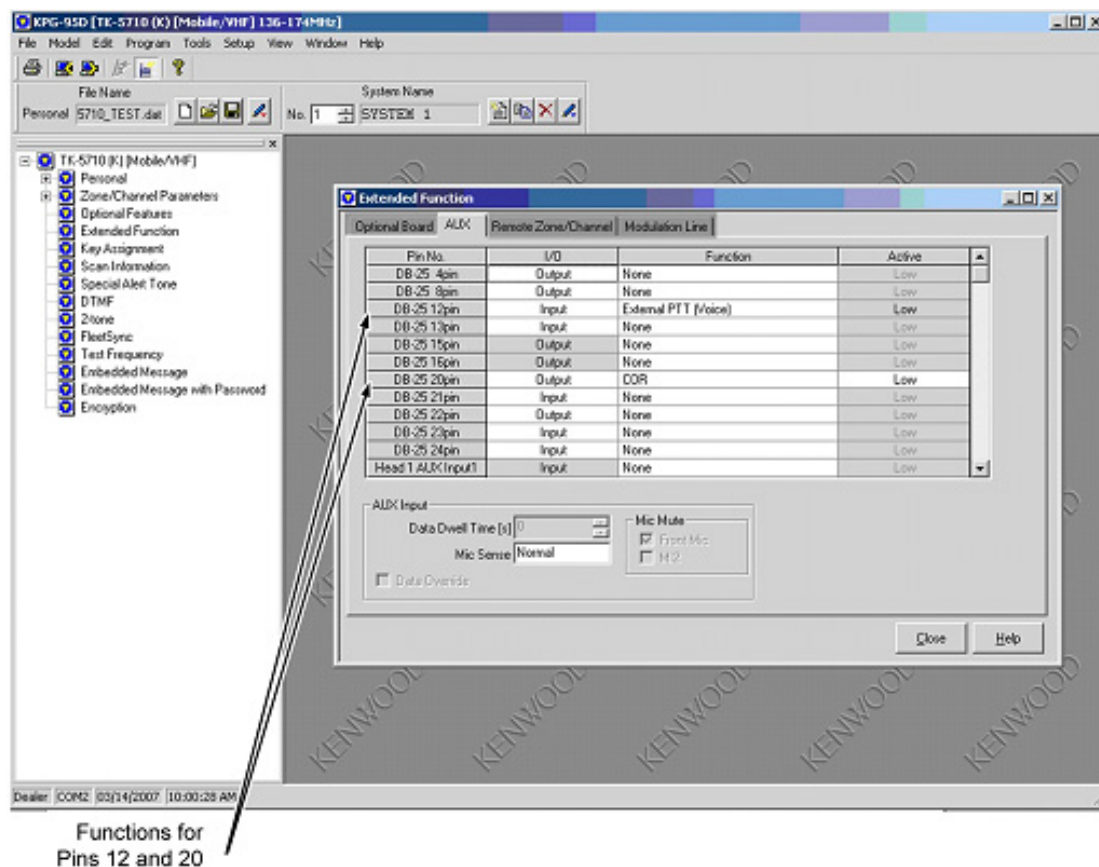

FIGURE 18. Extended Function Window
**NOTE:** Use Figure 18 with the following instructions.